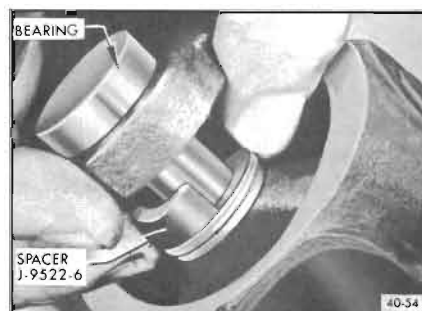

Figure 40-54—Installing Spacer
4. Release the pump and install Spacer J-9522-6 over the spider journal at the space provided with bearing forced partially through the yoke. See Figure 40-54. Reposition the propeller shaft in the fixture as before and force the bearing completely out of the yoke with the added assistance of the spacer.